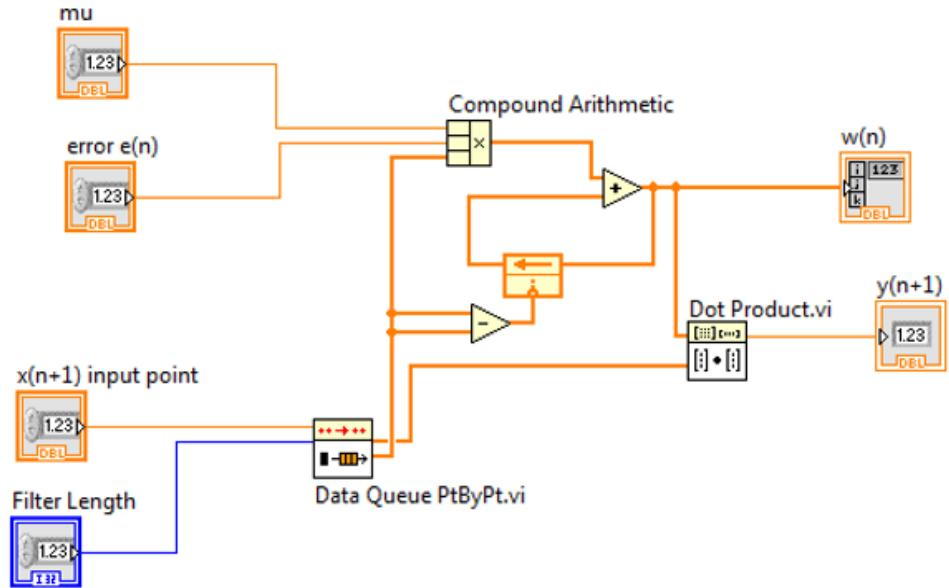

Fig. 2. Adaptive filter structure in LabVIEW.
- a) Design an adaptive filter structure in LabVIEW, i.e. **LMSmy.vi**. The VI structure for the adaptive filter using the LMS algorithm is given in Fig. 2. Note that you should be able to call this VI from another VI as a **subVI** and hence you should assign input and outputs for this VI appropriately.